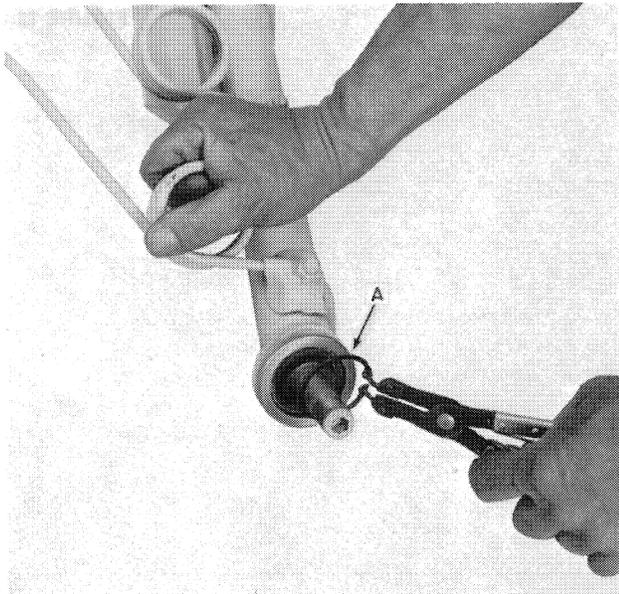

FIGURE 13
2. Remove the snap ring, A, Figure 13.